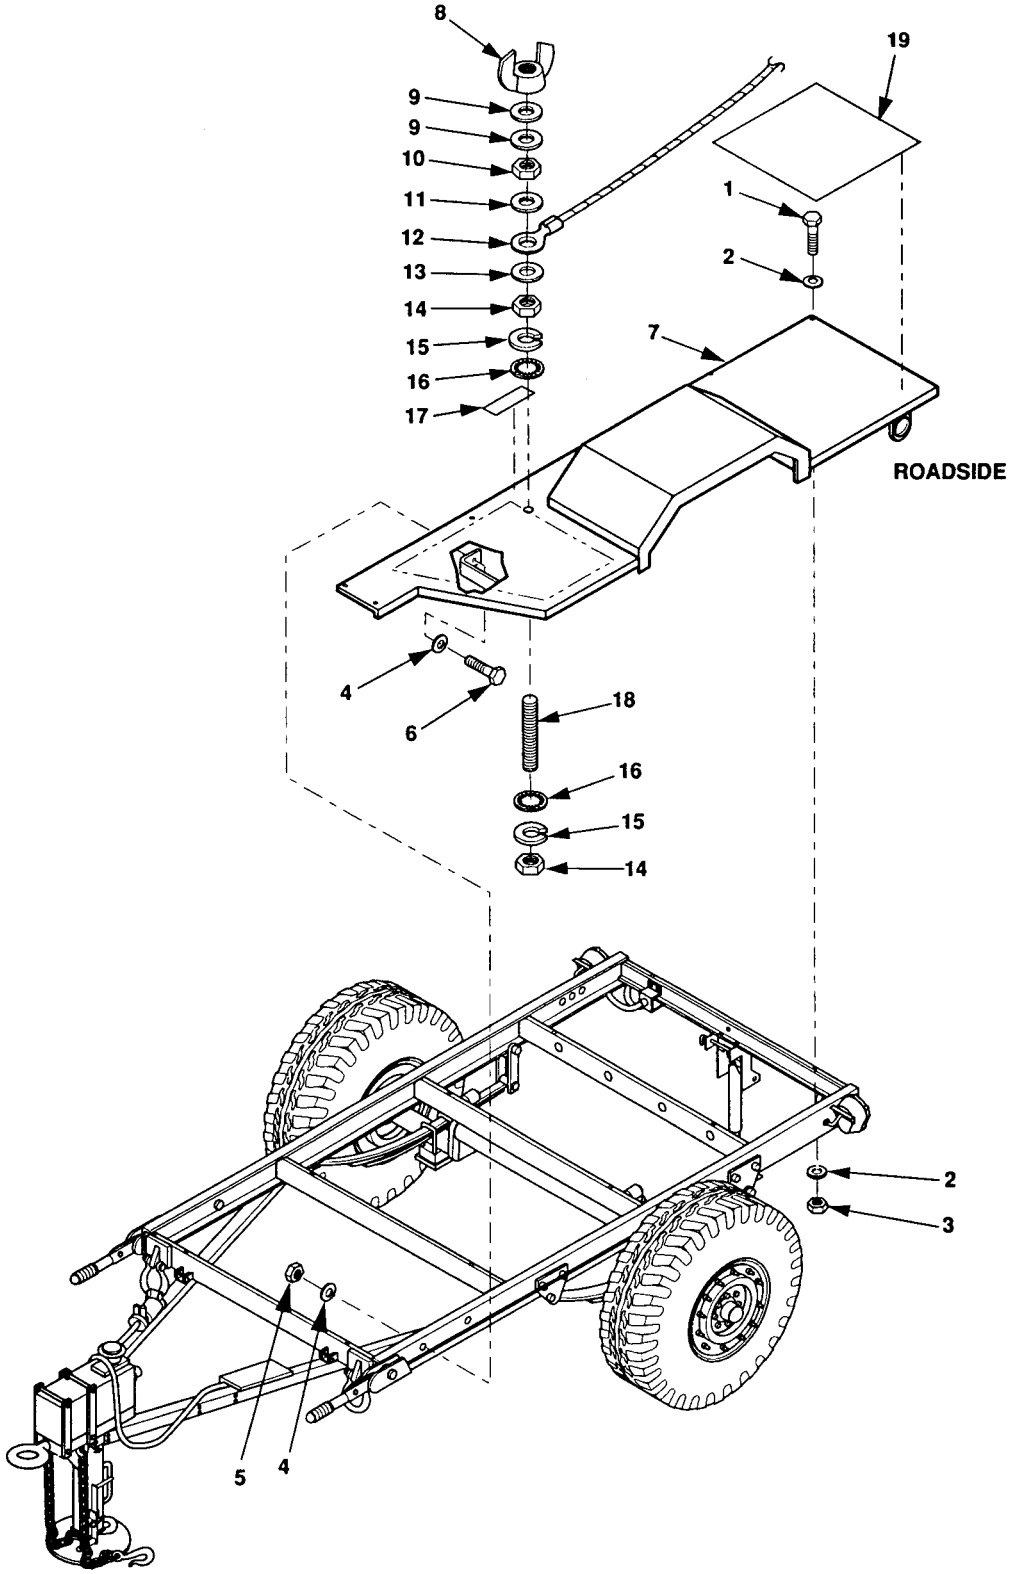

Figure 4-24. PU-798 and PU-799 Fender Replacement.
1. Remove wing nut (8, figure 4-24), two flat washers (9), nut (10), flat washer (11), ground cable (12), and flat washer (13).